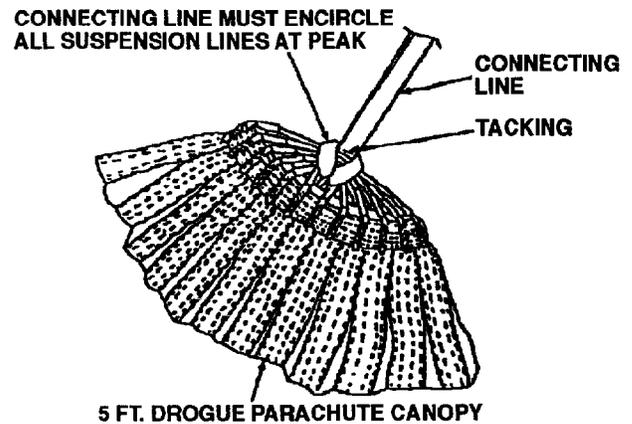

Figure 6. Tacking at Apex
b. Check tacking at apex (Figure 6).